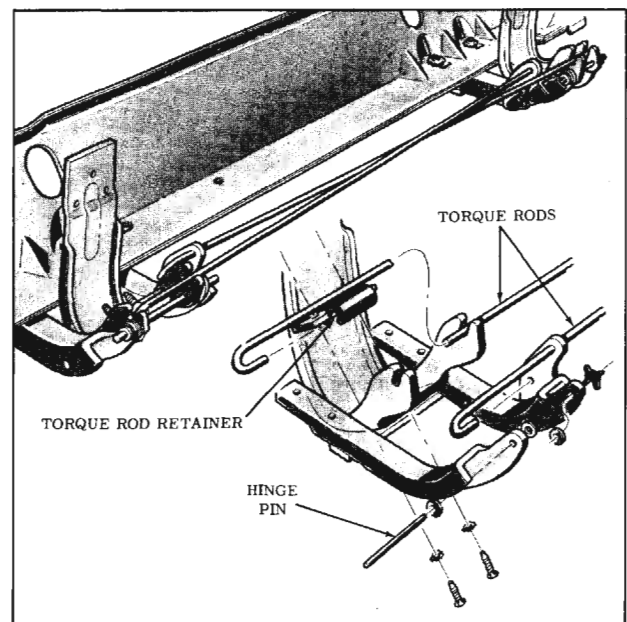

Fig. 16-184 Tail Gate Torque Rods
### REMOVE AND INSTALL (Fig. 16-184)
Install torque rods as shown in Fig. 16-184.
2. Disconnect torque rods from hinge to be removed. (Fig. 16-184)